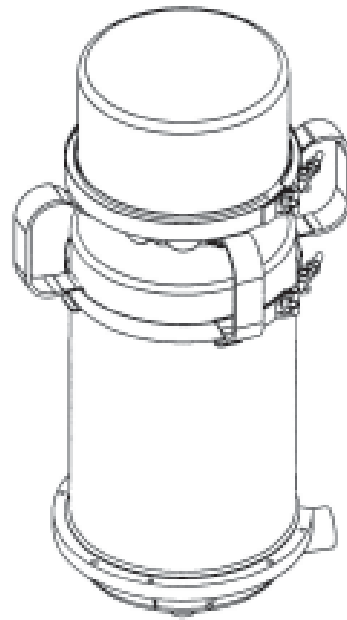

Figure 1b
- C.** Lay the unit upside down being careful not to damage the top of the pump chamber. Placing blocks or wood under the float will help prevent this damage. NOTE: Pump chamber and float not shown in Figure 1b.
- D.** Place the junction box onto the unit as shown Figure 1b and tighten the band clamp so there is approximately a 1/2 inch gap between the bottom of the motor housing and the top of the junction box.